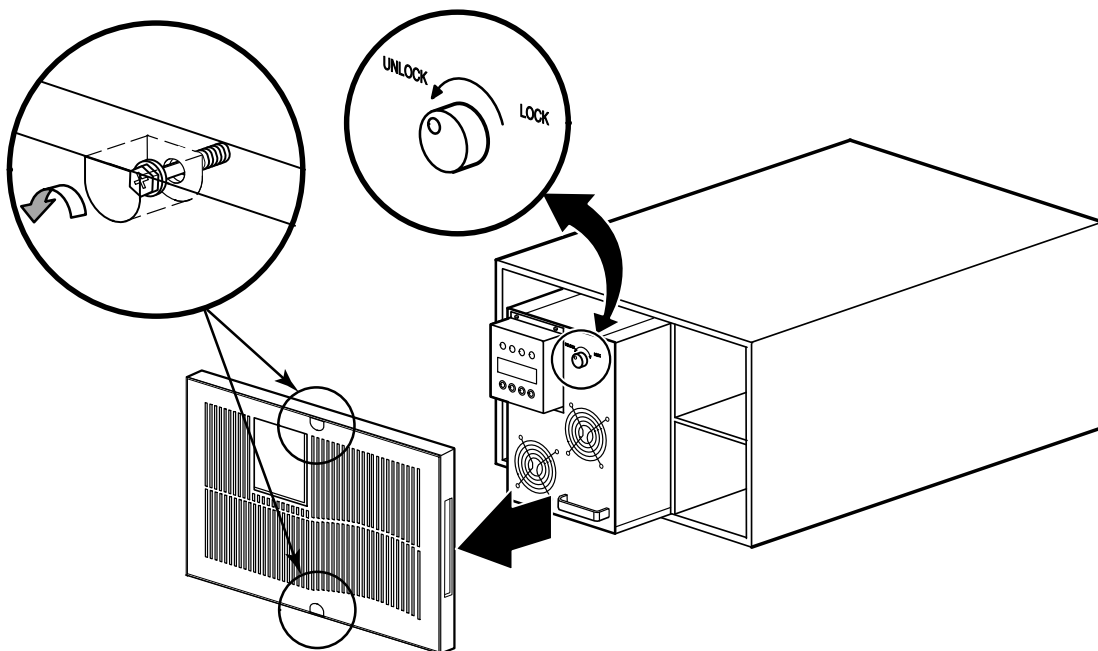

Figure 19. Removing the UPS Front Cover and Electronics Module
9. Remove the UPS front cover and the electronics module and set them aside (see Figure 19):